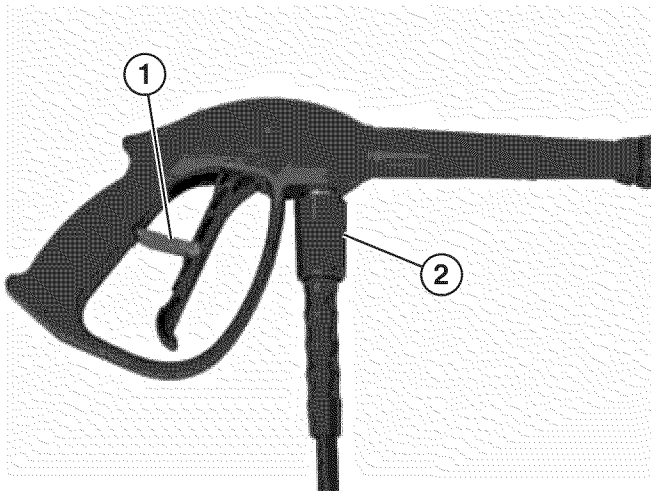

Figure 17 – Trigger Lock in OFF Position
16. Flip the trigger lock up to lock the trigger in the **OFF** position (see Figure 17).
17. Install the high-pressure hose to the spray gun and tighten the hose fitting (see Figure 17). Do not overtighten. The fitting only needs to be hand-tight.